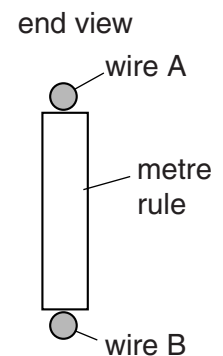

Fig. 2.1b
4. Wire A should be fixed to one side of the metre rule with adhesive tape. Wire B should be fixed to the opposite side, as shown in Fig. 2.1b.